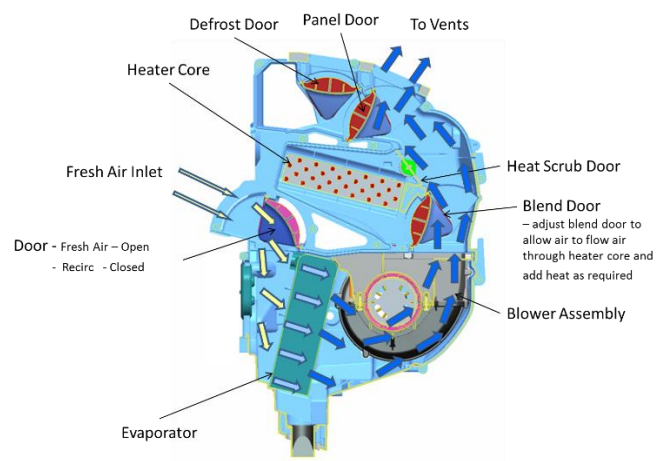

Figure 4: Panel A/C. Fresh Air, Panel
*Figure 4* illustrates the system airflow when operating in the **PANEL A/C mode** with fresh air intake. In the PANEL A/C mode, the fresh/recirculated air door is in the fresh air position by default. Fresh outside air enters the top of the fresh air module via an air duct. The remainder of PANEL A/C operation is identical to the previous PANEL A/C operation.